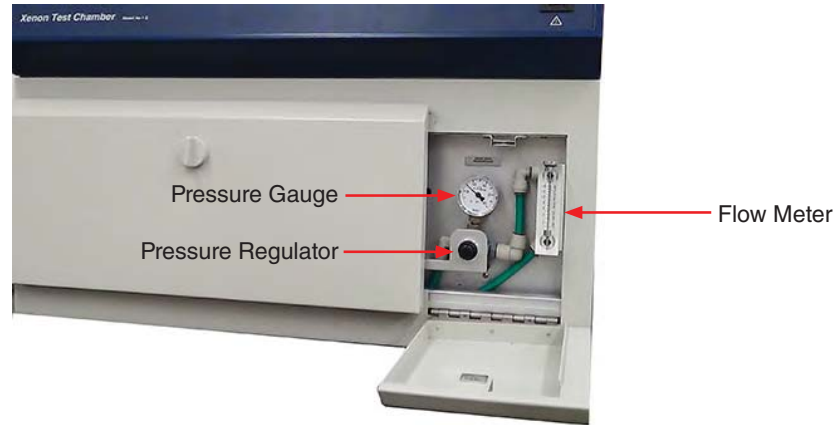

Figure 7c: Plumbing box inside right front door.
- Located in plumbing box (Figure 7c)